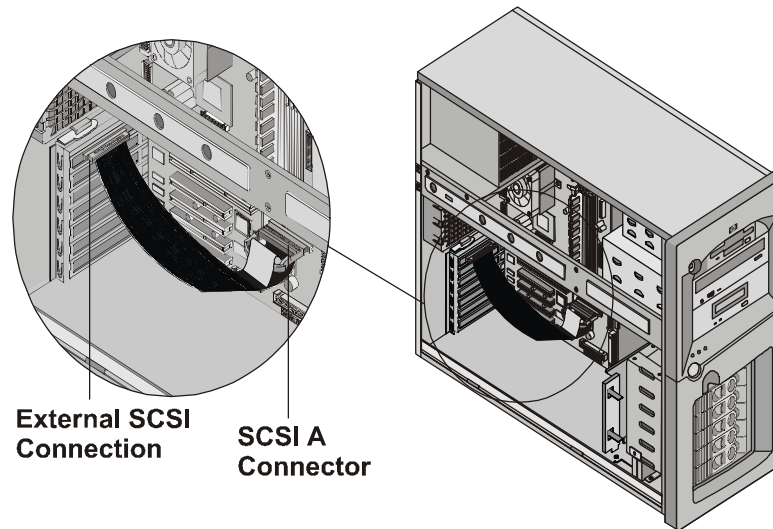

Figure 3-9. External SCSI Cable
3. Connect one end to the free SCSI connector (Channel A) on the system board. See Figure 3-9.